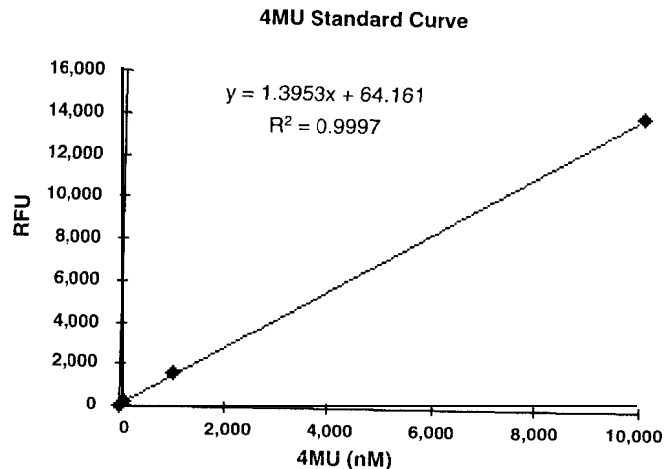

Fig. 1. Example plot of standard curve and linear equation.
3. From the data, prepare a calibration curve by plotting 4-methylumbelliferone concentration (nM) versus relative fluorescence units (RFU). An example of the 4MU standard curve is shown in Figure 1.